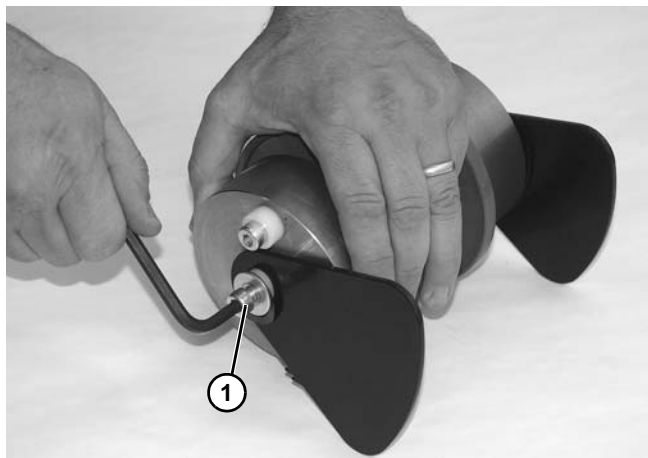

Figure 152
6. Remove socket head screw (**Figure 152, item 1**) from end of idler pulley assembly.